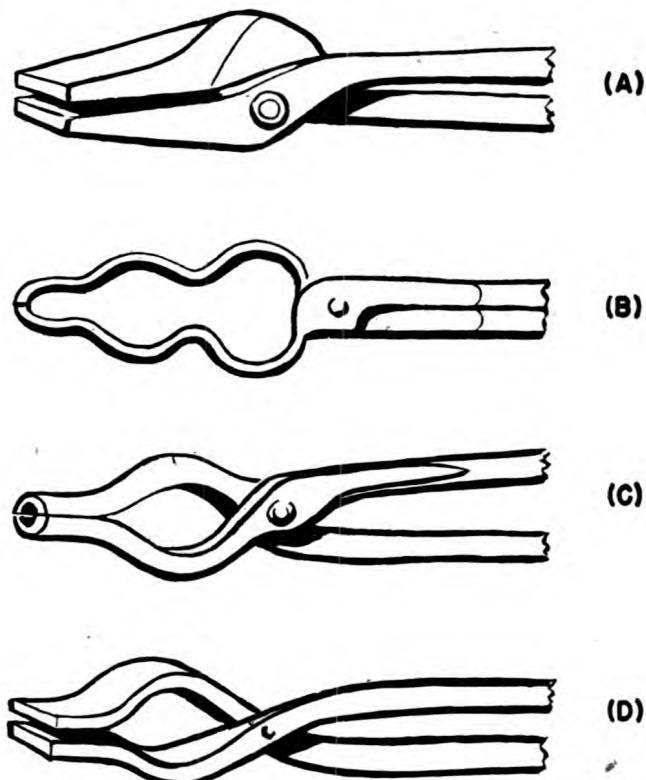

Figure 86.—Tongs.
GAD TONGS, illustrated in (D) of figure 86, are much like bolt tongs. The jaws, however, instead